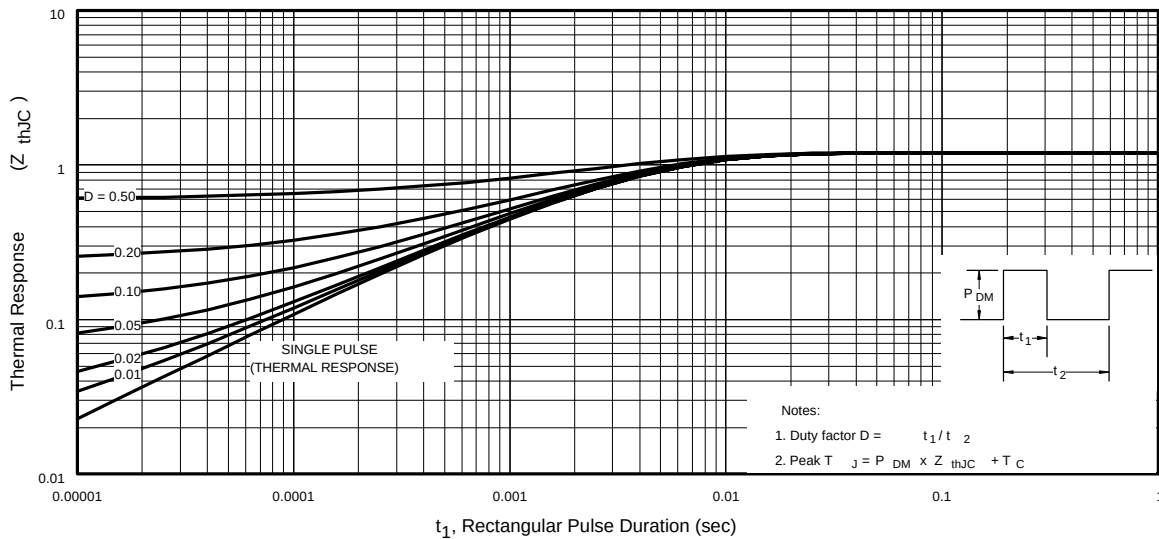

Fig 11. Maximum Effective Transient Thermal Impedance, Junction-to-Case
- ① Repetitive rating; pulse width limited by max. junction temperature. (See fig. 11)
- ② Starting $T_J = 25^\circ\text{C}$, $L = 1.5mH$